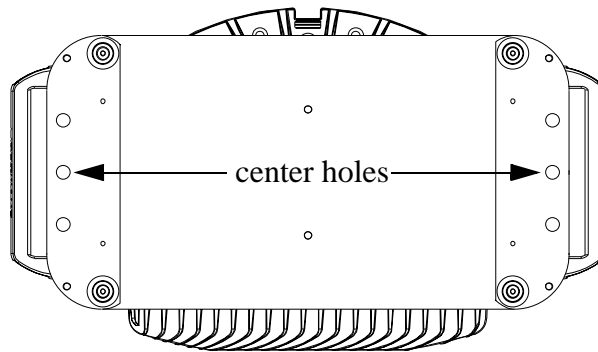

Figure 1.8. Attaching Mounting Hardware
1. Lay the fixture on its side and attach the mounting hardware to the center holes on the base. Refer to Figure 1.8